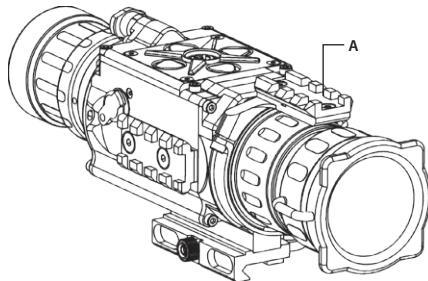

FIGURE 3-14. THE APOLLO FULLY ASSEMBLED WITH THE PLATFORM RING
Figure 3-14 shows the Apollo with the Platform Ring adapter (A) installed.
1. Using a 1.5 hex key, unscrew the both clamp screws (C).
2. Place the clamps (B, D) onto the Apollo mounting tube (as in Figure 3-14). Screw the clamps together without tightening the screws (C).
3. Adjust position of the Platform Ring until its rail (A) is level. Apply a small amount of thread lock to the threads and tighten the screws (C).